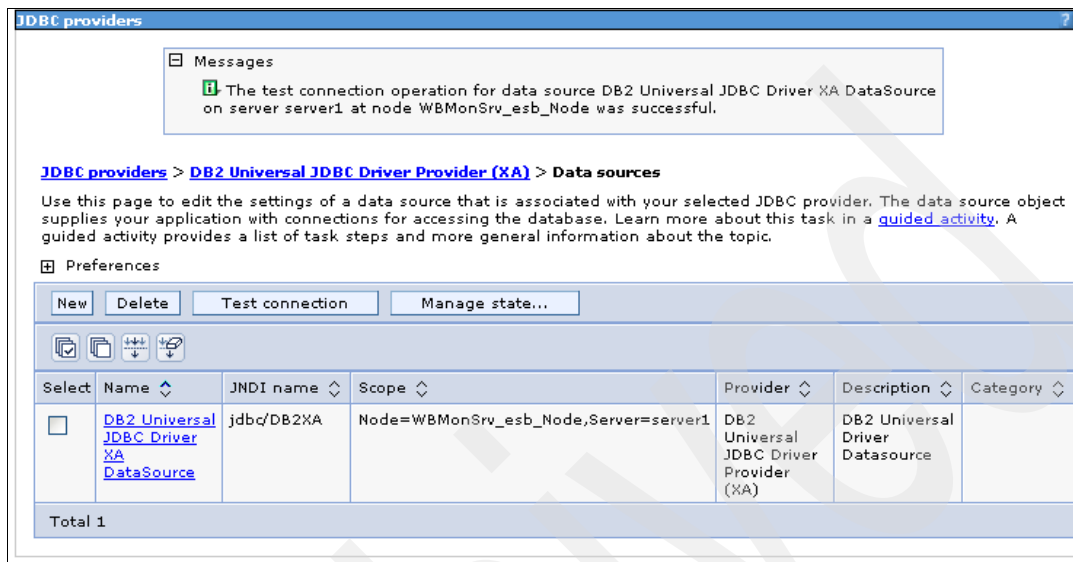

Figure 6-34 Test connection
8. Select the newly created datasource and click **Test Connection**. You see a message that indicates the test connection operation was successful (Figure 6-34).